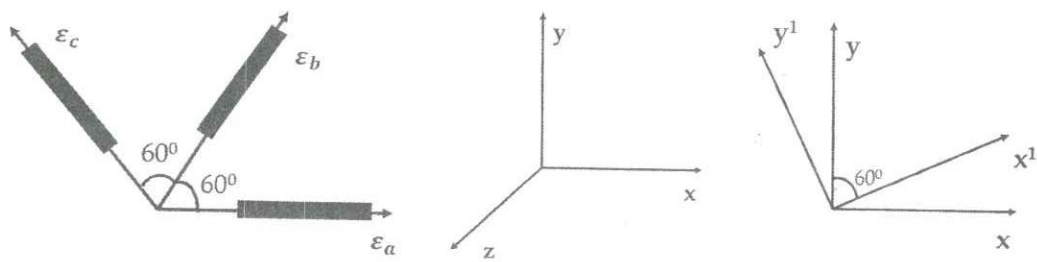

Figure Q5(c)
c) A delta strain rosette ($0^\circ, 60^\circ, 120^\circ$) (Figure Q5(c)) is used in obtaining strain measurements experimentally in order to evaluate a design against its simulated performances. The strain rosette is bonded to the surface of a thin steel plate under the operating loading conditions.
iv) Determine the plane strain conditions of x^1y^1 plane (in Figure Q5(c))